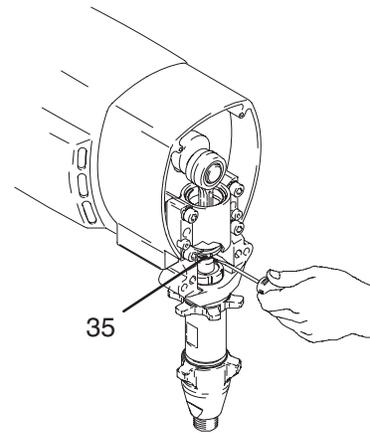

Fig. 18
3. Fig. 18. Push retaining spring (35) into groove all the way around connecting rod.